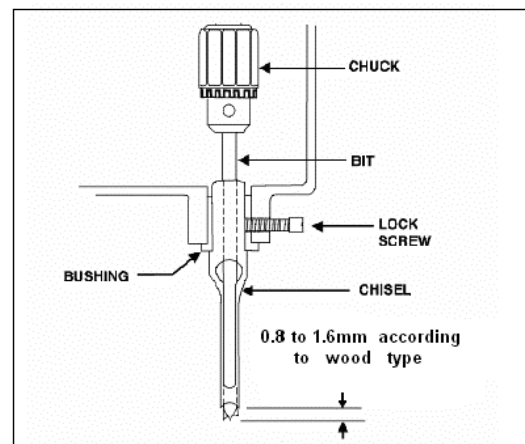

Fig 12
1. Loosen lock screw, shown in Figure 12.